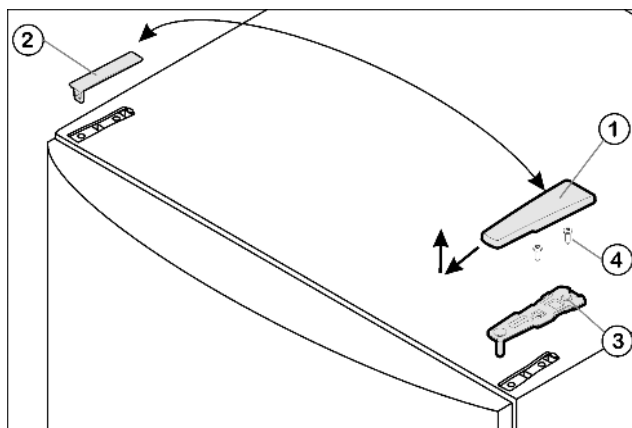

Fig. 4
- Pull off the cover Fig. 4 (1) forwards and upwards.
- Lift off the cover Fig. 4 (2).
- Unscrew the upper turn hinge Fig. 4 (3)(2x Torx® 25) Fig. 4 (4) and lift it off.
- Insert the upper turn hinge Fig. 4 (3) in the door on the new hinge side.
- Screw the upper turn hinge **firmly** into place (**with 4 Nm**) (2x Torx® 25) Fig. 4 (4). Possibly make preliminary holes with a bradawl or use a cordless screwdriver.
- Apply the cover Fig. 4 (1) and cover Fig. 4 (2) to the opposite side from the outside and snap them into place.